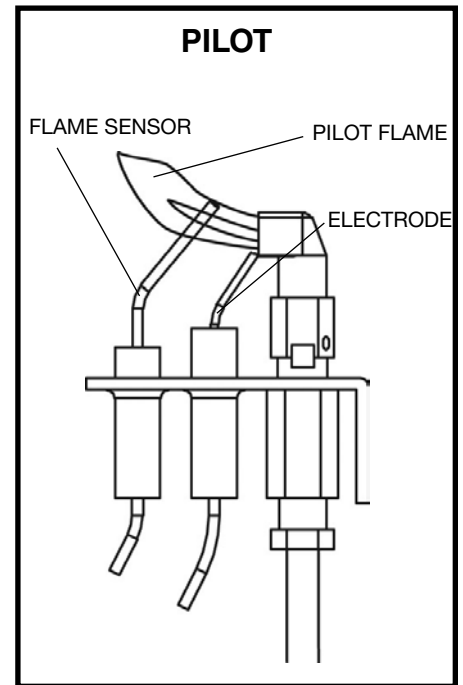

Figure 93: SIT pilot assembly.
- Check the pilot system for proper flame size and operation. Clean pilot free of soot, dust or any other deposits (Figure 93 and Figure 94). Have a qualified service person adjust the pilot flame.